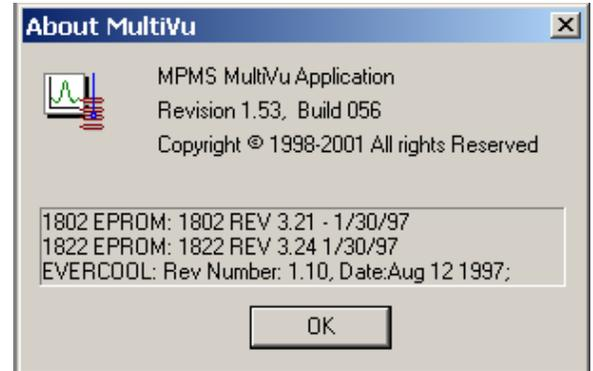

Figure 2. Dialog box listing the version of the 1822 and 1802 EPROMS
2. The **About MultiVu** dialog box will open, showing the version (REV) of the 1822 and 1802 EPROMS. For example, the 1822 EPROM in Figure 2 is REV 3.24.